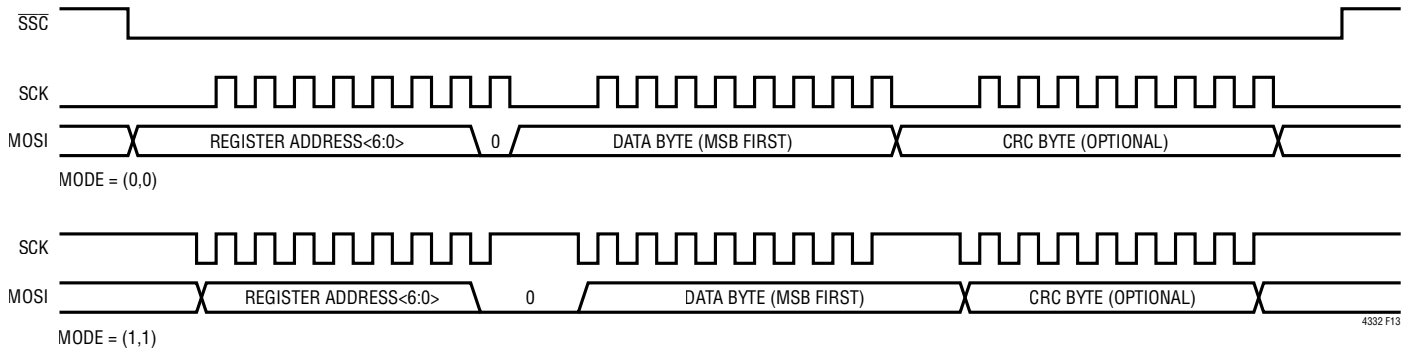
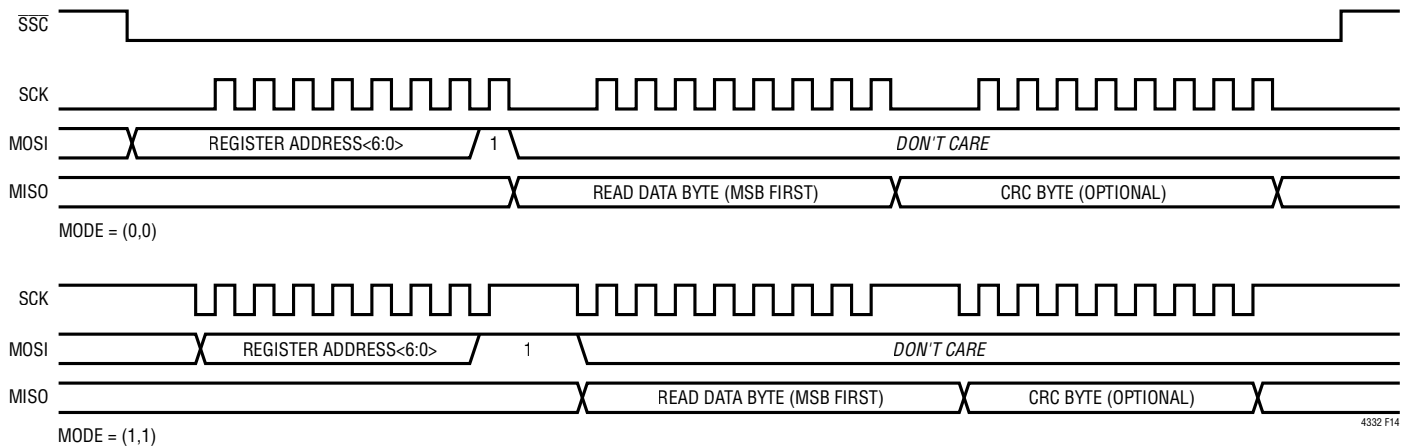

Figure 13. Control Interface Write Transfer
Figure 14. Control Interface Read Transfer
The LTC4332 provides a separate slave select pin, $\overline{\text{SSC}}$, that allows a user to access the internal control interface for configuration and monitoring. The interface supports SPI modes (0,0) and (1,1) only. Read and write accesses are shown in Figure 13 and Figure 14. The bit order is MSB first. The first byte includes the register address in bits <7-1> and a read(1)/write(0) bit in the LSB. Only single data byte accesses per transfer are supported. Programmed values are retained while $V_{\text{CC}} \geq 3.0\text{V}$
- IEC 61000-4-5 Surge Level 4: ± 5 kV (line to GND, line to line, 8/20 μ s waveform, each line coupled to generator through 80 Ω resistor per Figure 14 of the standard)